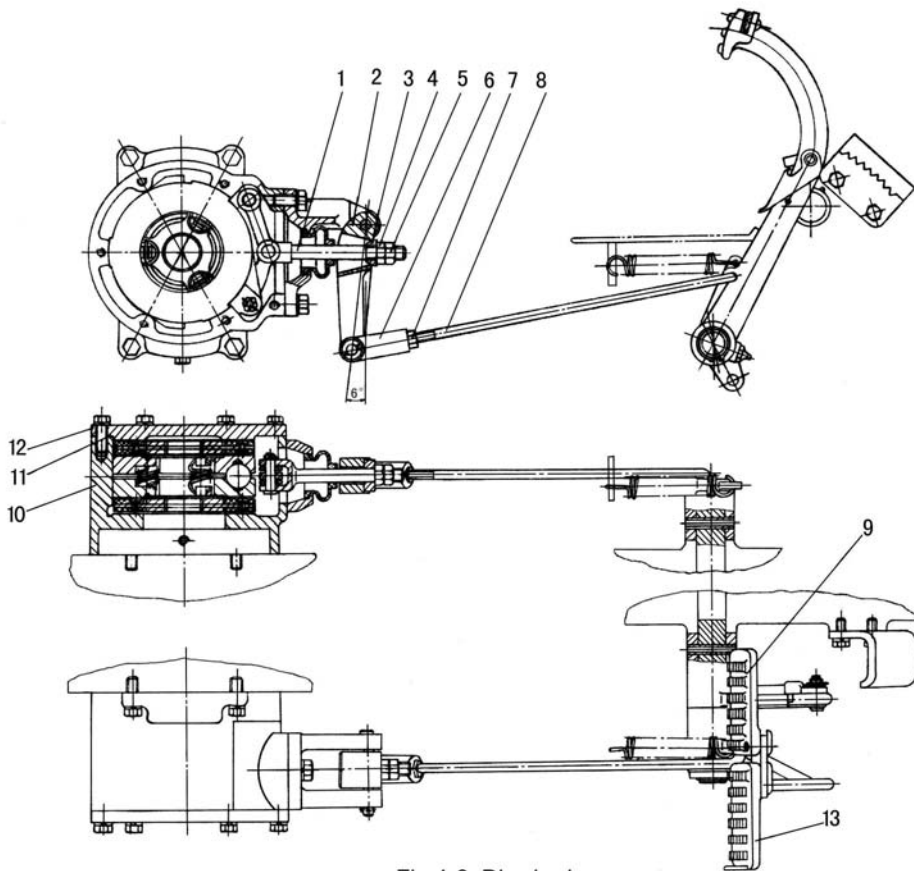

Fig.4-6 Disc brake
Loosen the locking nut (7) on pull rod adjusting fork (6) and turn brake pull rod adjusting fork to change the length of the pull rod (8) until the displacement (from the highest position of the brake pedal to friction disc assembly being completely braked) of the brake pedal is 85-95mm. When the left and right pedal are locked together, stepping on the pedals can simultaneously brake the left and right wheels; after adjustment, lock it with nut (7). (Fig.4-6)
If the above adjusting range can not perfectly make the free state and brake state out, they can be adjusted through increasing or reducing the brake cover gaskets (11) between brake cover (12) and brake case (10). If the brake travel is too small, increase the gaskets; if the brake travel is too big, reduce or remove the gaskets. (Fig.4-6)